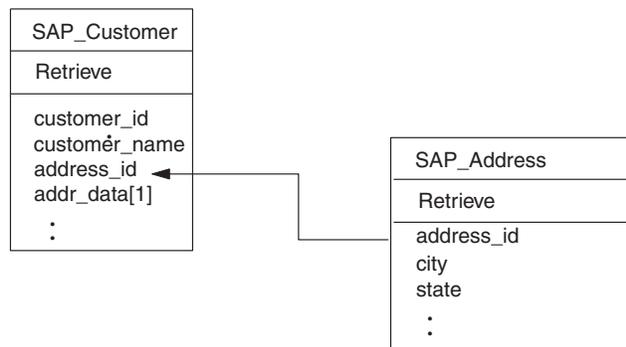

Figure 32. Example customer and address relationship
- In a single-cardinality relationship, the foreign key is determined by the primary key in the child referencing a **non-key** attribute in the parent as its foreign key. Each child has at least one simple attribute that references a non-primary key attribute in its parent as a foreign key. Figure 32 provides an example.
Figure 32 provides an example of a simple WebSphere business object developed to process customer objects in SAP. This example SAP_Customer has a single-cardinality relationship to the example address object that it contains (the `addr_data[1]` attribute has cardinality 1). The primary key attribute (`address_id`) in the child business object references a non-primary key (`address_id`) in the parent business object.